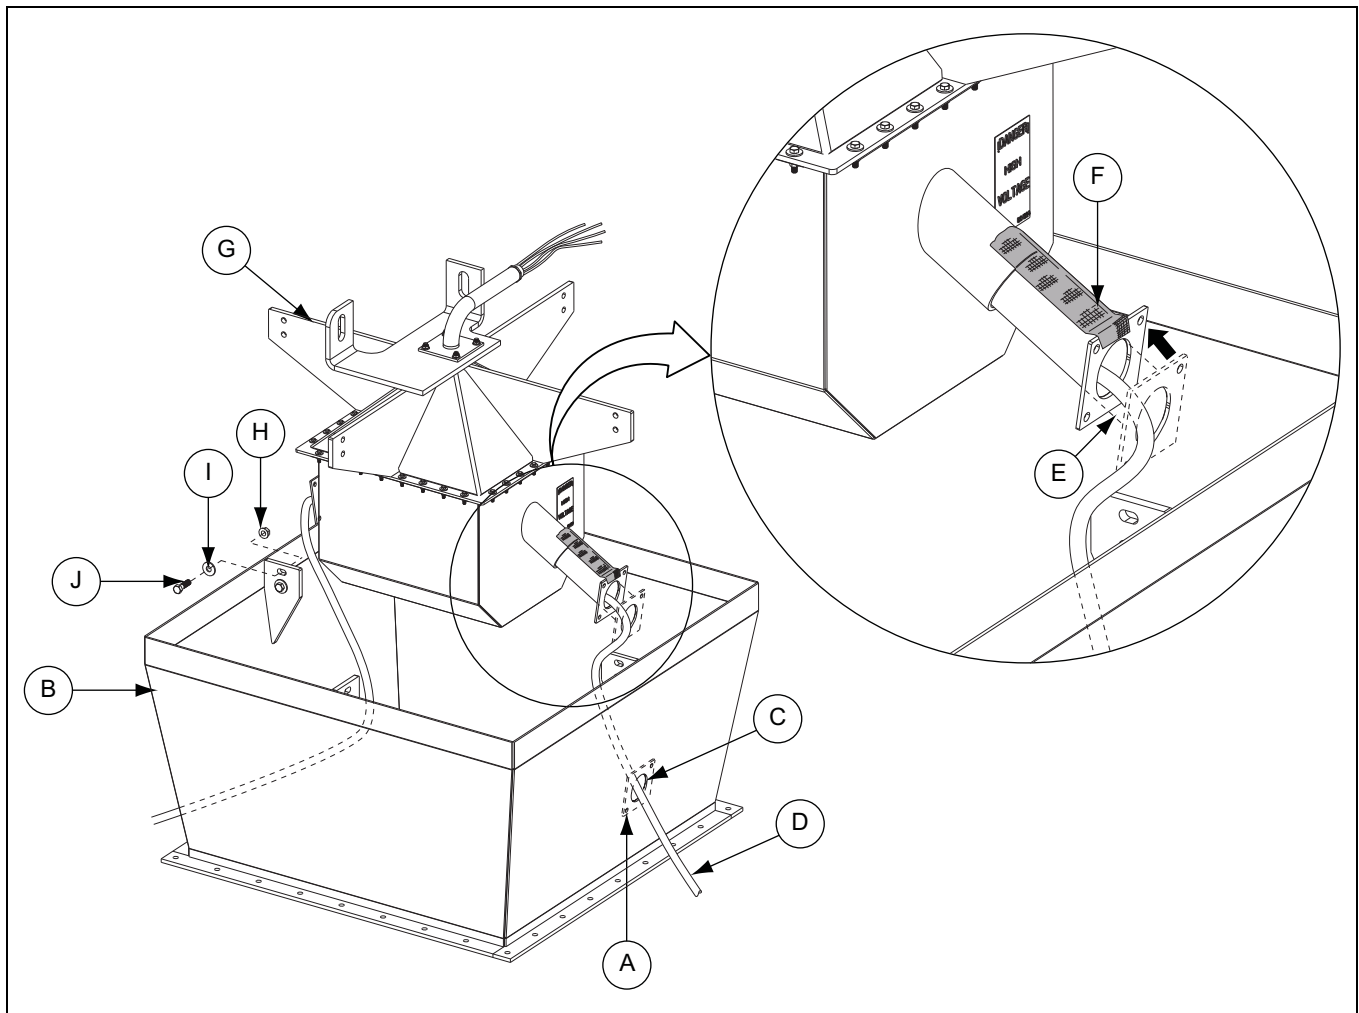

Figure 6D
3. Determine the correct hole size needed for each lower flex conduit (D) and drill hole (C) from the center of the traced outline (A). (See Figure 6D.)